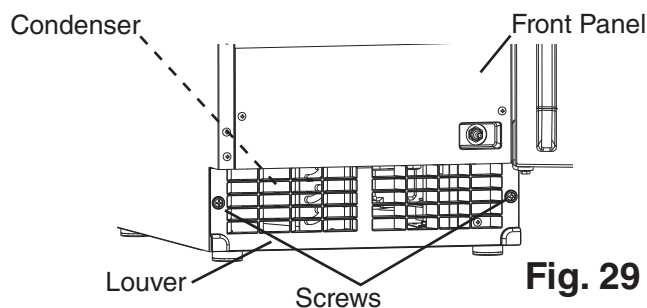

Fig. 29
- 2) Remove the screws securing the front panel, then remove it. See Fig. 29.